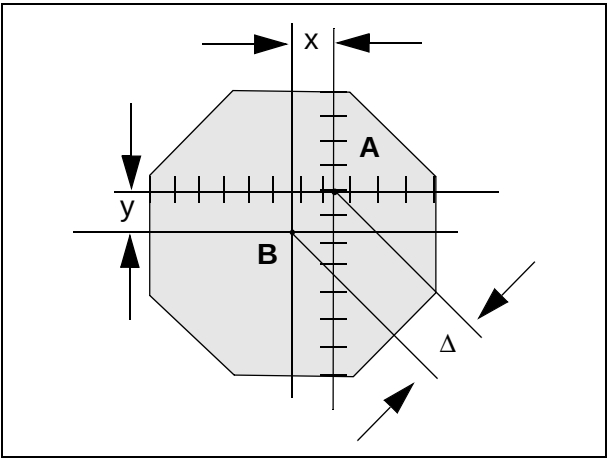

Fig. 3
4. Read the evaluation at the TV Monitor (Fig. 3).
7. Test result (see also Fig. 3):